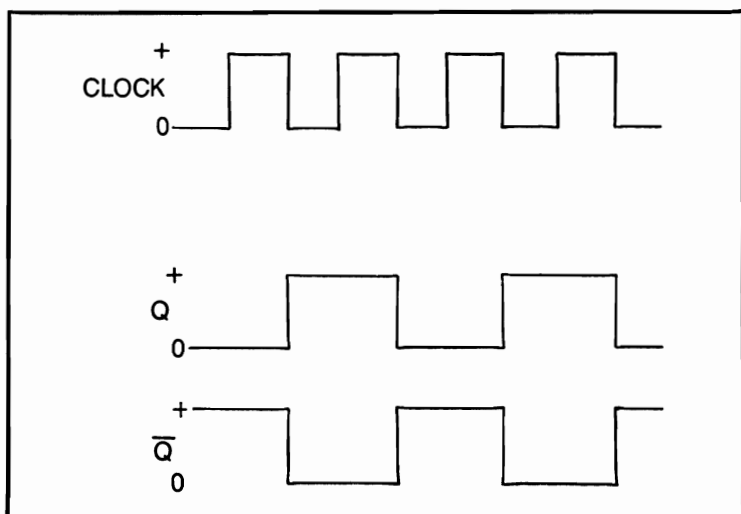

Fig. 1-22. Timing waveform of type-T flip-flop.
The type-T flip-flop functions as a binary divider, that is, the output signal has a frequency that is one-half (i.e., divided by two) of the input signal. The timing diagram for this circuit is shown in Fig. 1-22. Note that the Q output changes state only on negative-going transitions (i.e., high-to-low) of the clock pulse. At the first negative transition, the Q output snaps high and remains high until the clock input sees another negative transition. This condition occurs at pulse 2, at which time the Q output goes low again.
- If both J and K are high, the J-K flip-flop behaves much like a type-T flip-flop; clocking complements the outputs. This means that negative-going clock-pulse transitions force the outputs to go to the opposite state. The output waveform of the J-K flip-flop is then identical to the output waveform of the type-T flip-flop given in Fig. 1-22.